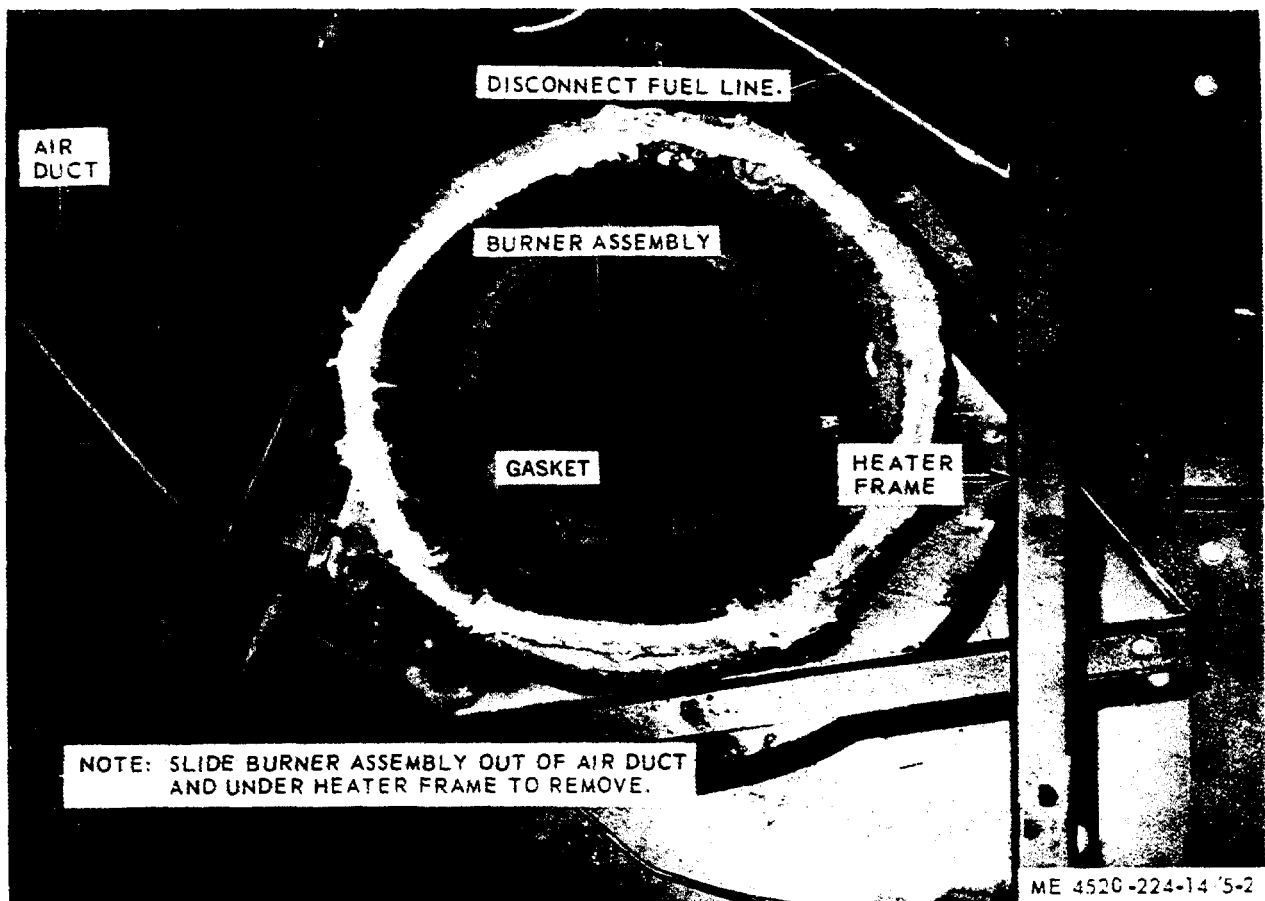

Figure 5.2. Burner, removal and installation
(1) Remove the combustion chamber assembly, paragraph 5-10.
(2) Remove the 3 bolts securing the burner triangular frame to the heater frame and remove the burner assembly, figure 5-2.